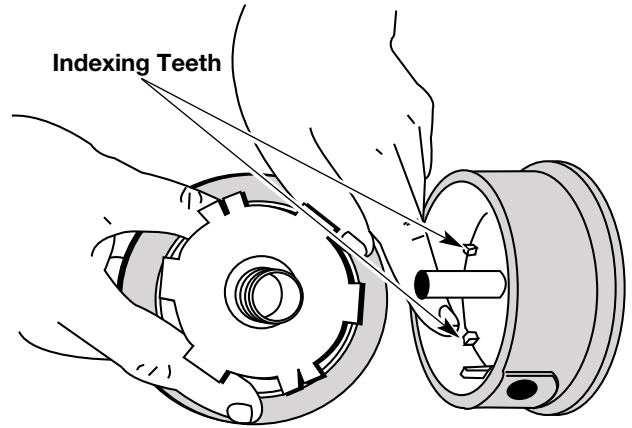

Fig. 13
5. Check the indexing teeth on the innerreel and outer spool for wear (Fig. 13). If necessary, remove burrs or replace the reel and spool.